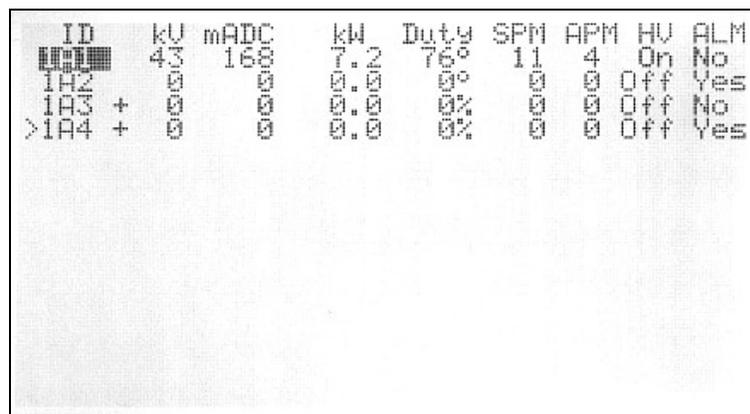

Figure 1-3
- The Optimizer addresses that are to be displayed on the network display screen must also be defined. The display range is set in the **Netwk Beg to End** parameters. Once all these parameters are set and the **Network** screen is selected, the network summary screen will be displayed (fig. 1-3).